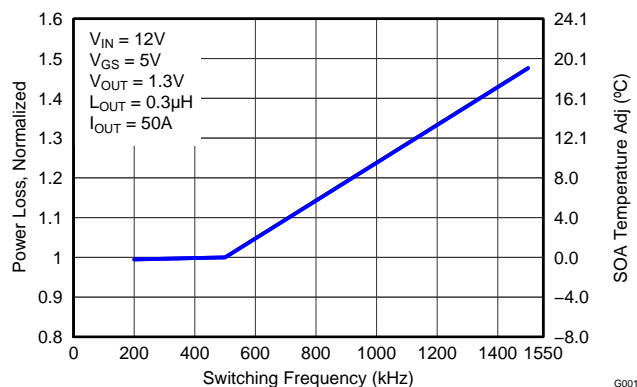

Figure 6. Normalized Power Loss vs Switching Frequency
- Normalized Power Loss for switching frequency ≈ 1.15 (Figure 6)
- SOA adjustment for switching frequency $\approx 6.0^{\circ}\text{C}$ (Figure 6)